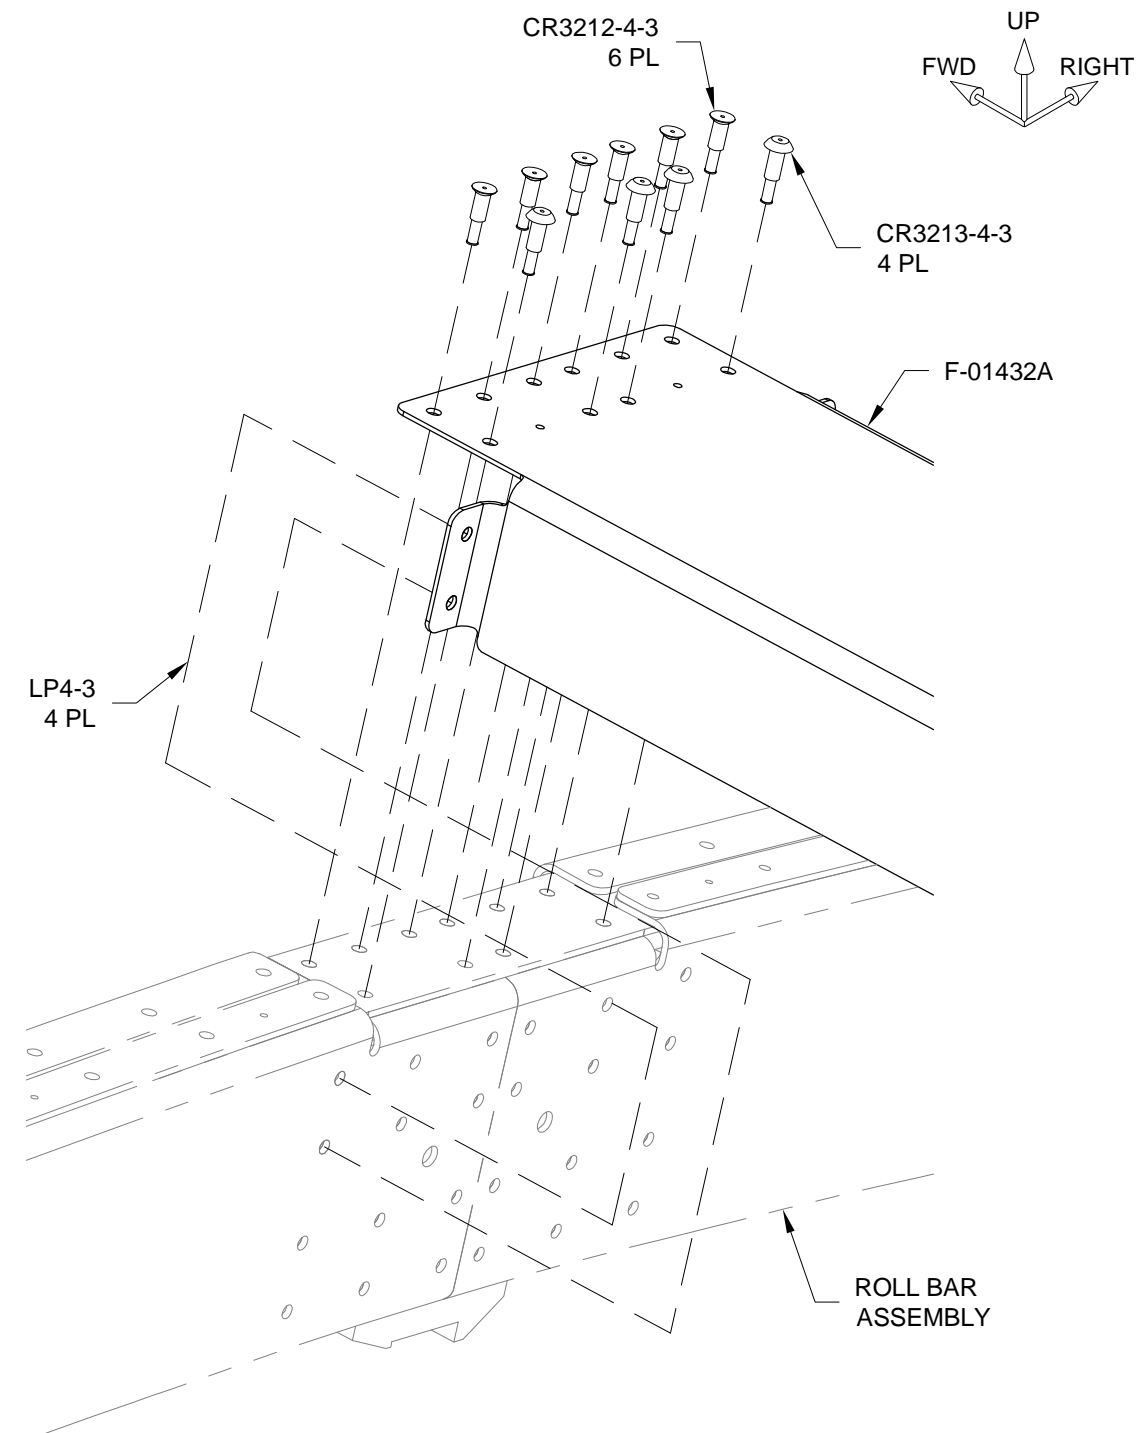

FIGURE 1: ATTACH BRACE TO ROLL BAR ASSEMBLY
Step 1: Rivet the F-01432A Roll Bar Brace to the Roll Bar Assembly using Figure 1 rivet call-outs.